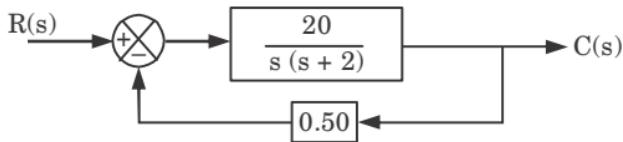

Fig. 6.
Q. 10. Calculate the sensitivity of the closed loop system shown in Fig. 6 with respect to the forward path transfer function at $\omega = 1.5 \text{ rad/sec}$.